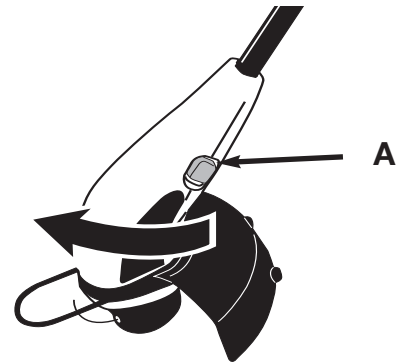

Fig. 5
2. Push shaft locking button (A) forward, and rotate cutting assembly until an audible click is heard. (Fig. 5)